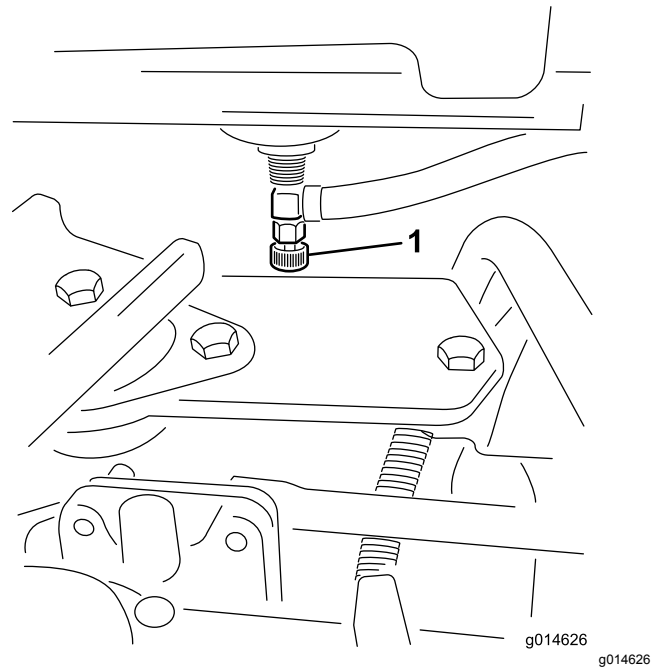

Figure 41
1. Close the fuel-shutoff valve (Figure 41) below the fuel tank.